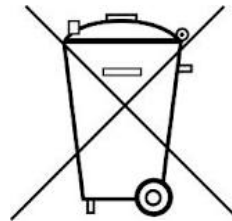

Fig. 1 Measurement of flux density in the air gap between pole pieces of an electro-magnet in an experiment set-up using the basic Hall-effect apparatus
- Set up the experiment as in Fig. 1.